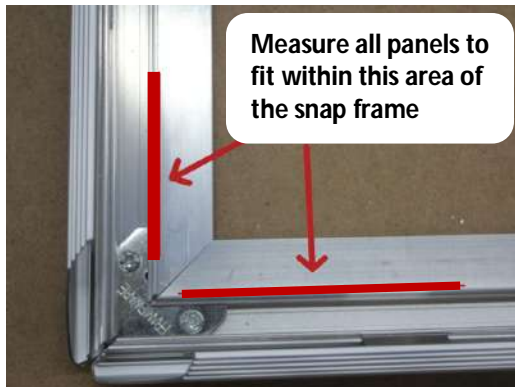

Figure 3
2. **Snap frame and mitered Snap frames use.** Make sure you are familiar with mitering techniques for snap frames as they require double mitering. When measuring the height of the panel needed to fit make sure you measure to the right points in the snap frame. (see figure 3)